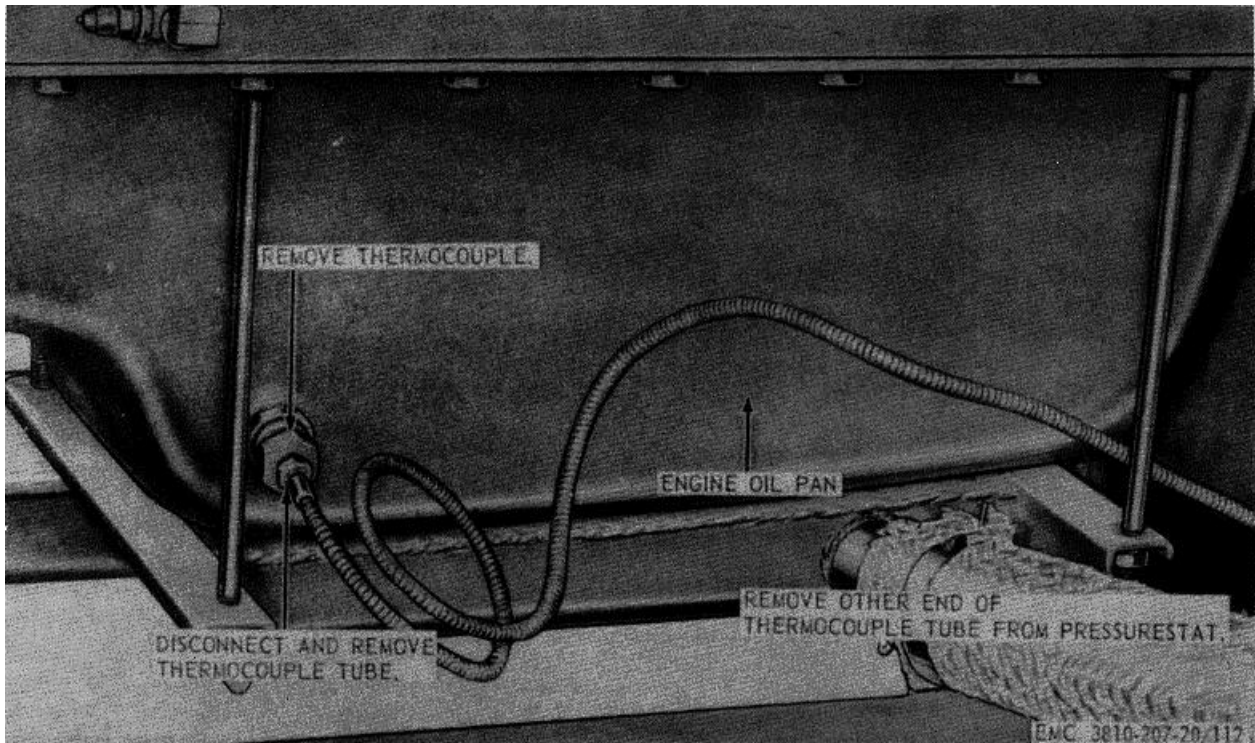

Figure 112. Thermocouple, removal and installation.
- (1) Drain engine crankcase (TM 5-3810-207-10).
- (2) Remove the thermocouple as instructed on figure 112.
- (1) Install the thermocouple as illustrated on figure 112.
- (2) Fill engine crankcase (LO 5-3810-207-20).